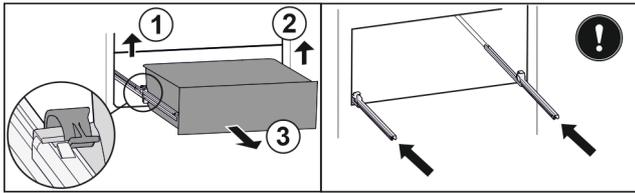

Fig. 43
- ▶ Lift left clamp and simultaneously pull drawer forwards on the left. Fig. 43 (1)
- ▶ Lift right clamp and simultaneously pull drawer forwards on the right. Fig. 43 (2)
- ▶ Remove drawer to the front. Fig. 43 (3)